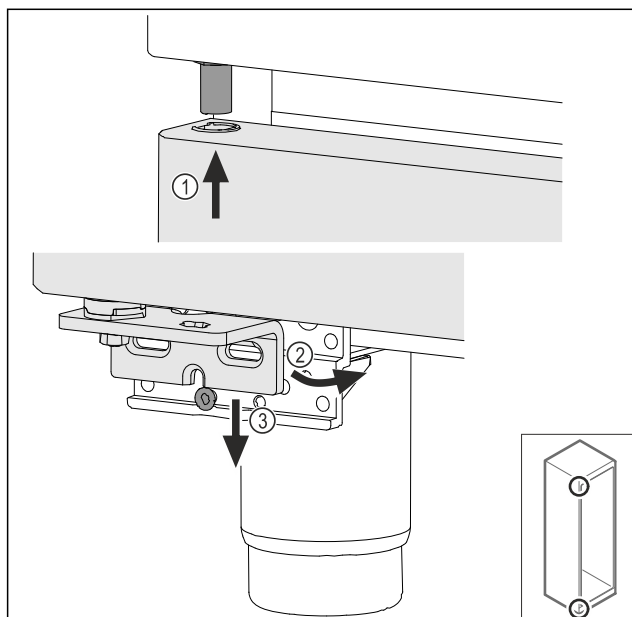

Fig. 66
- Insert the door slightly tilted at the top Fig. 66 (1), align the door straight Fig. 66 (2) and place it on the bottom of the swap bearing block screw Fig. 66 (3).